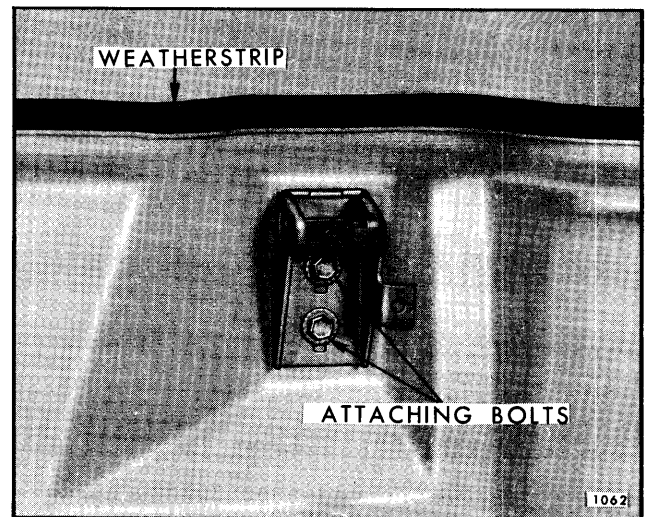

Fig. 8-20—Engine Compartment Lid Latch Striker - "Z" Styles
2. Remove attaching bolts and remove striker from body (see Fig. 8-20).